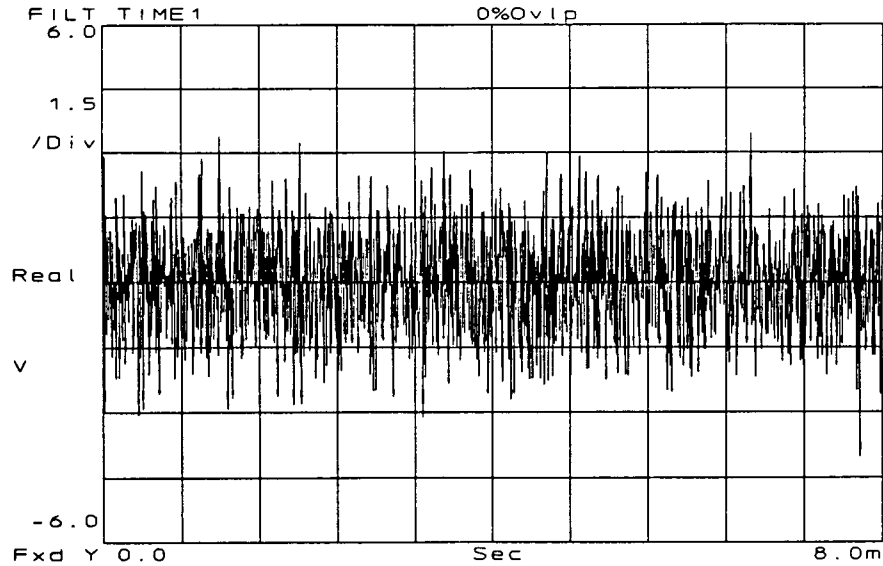

Figure 8-4. Random Noise
Refer to figure 8-4 to verify result.
If figure 8-4 is correct the following subblock is verified:
5. The random noise should follow the frequency span as it is changed. The display should appear similar to figure 8-4 as the frequency span is changed. To change frequency spans, press the HP 3563A keys as follows: